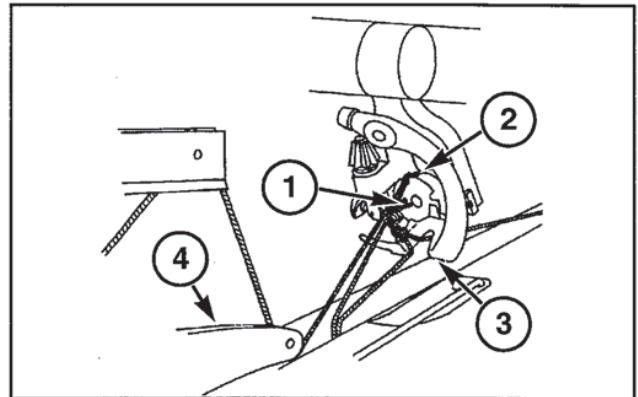

FIG. 9
FIG: 9: The billhook closes to hold the twines (1) and the twine knife advances, cutting both twines. The billhook holds the cut ends of the twines (2) as the loop is stripped off the billhook by the stripper arm (3), forming the knot. This completes the first knot of the tying cycle which ties off the bundle. The needle continues to move downward to the home position while the knotter starts the second knot. The twine finger moves forward, away from the twine. As soon as the needle retracts past the tucker arm (4), the tucker arm moves downward to put the top twine in the path of the twine finger.